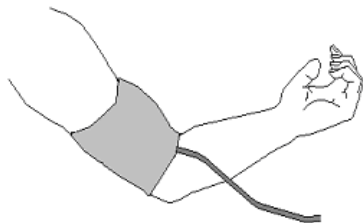

Figure 2.3 Cuff position
1. Applying the cuff; unfold the cuff and wrap it around the upper arm evenly to the appropriate tightness. The correct cuff position is shown in figure 2.3.